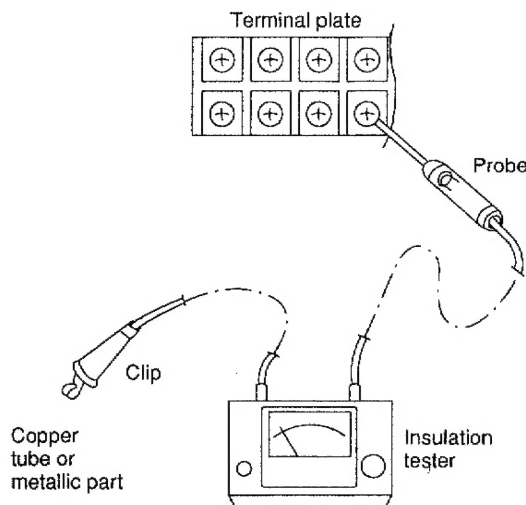

Fig. 2
(2) Indoor Unit
Clamp an aluminum plate fin or copper tube with the lead clip of the insulation resistance tester and measure the resistance by placing a probe on ①, and then ② on the terminal plate. (Fig. 2)
(3) Outdoor Unit
Clamp a metallic part of the unit with the lead clip of the insulation resistance tester and measure the resistance by placing a probe on ⑤, and then ⑥ on the terminal plate. (Fig. 2)
(4) Measurement of Insulation Resistance for Electrical Parts